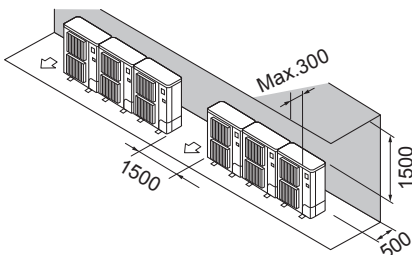

Fig. 5-10
- ② Obstacles at rear and above only (Fig. 5-10)